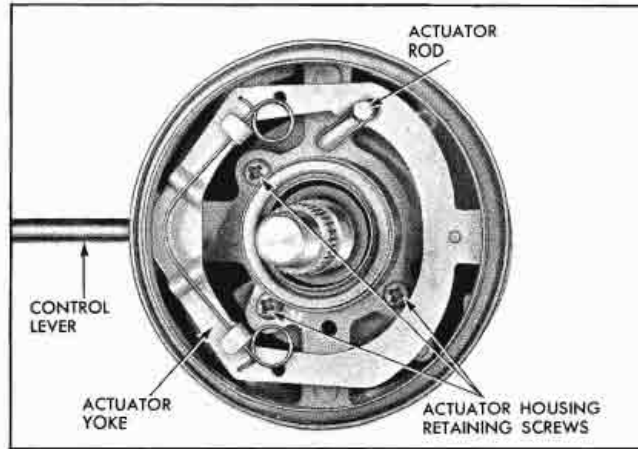

Fig. 7-17 Actuator Yoke Assembly
10. Remove three screws which retain actuator housing and remove housing (Fig. 7-17).
25. Insert actuator rod through opening in actuator housing (Fig. 7-17), and engage lower end of rod in retaining hole of bearing plate.
26. Engage top end of actuator rod in slot of actuator housing (Fig. 7-17).